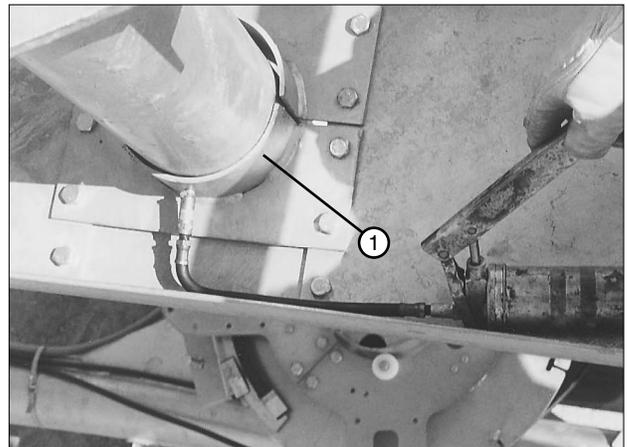

Figure 71-2 1. Upper Bearing
2. Lubricate two (2) grease fittings on the upper bearing. See Figure 71-2.